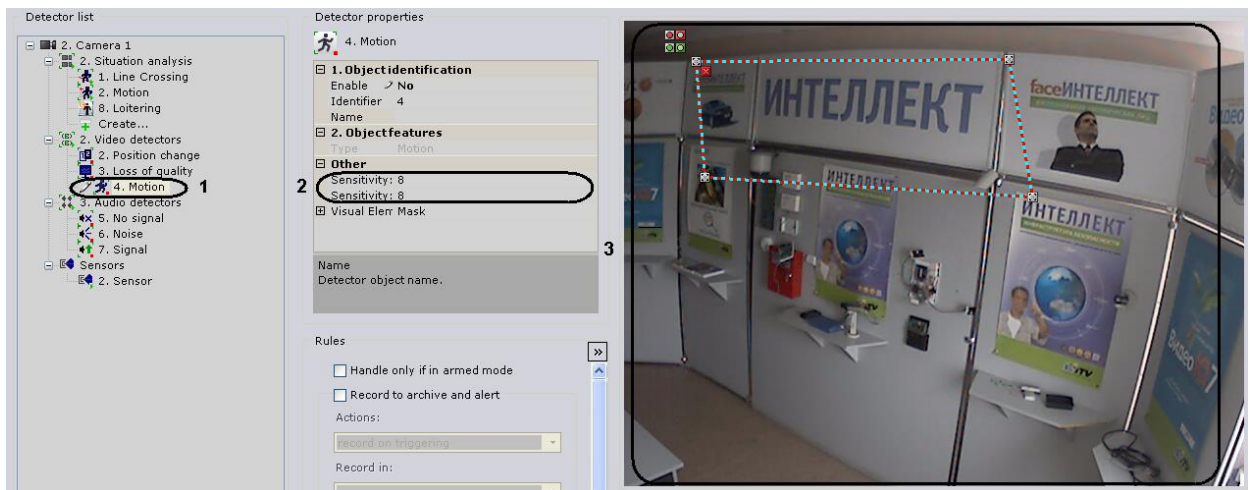

Fig. 6.4—14 Configuring a motion detector
1. In the detector list, highlight a **Motion** video detector object (Fig. 6.4—14, 1).
2. In the **Sensitivity: contrast** field (see Fig. 6.4—14, 2), enter the sensitivity of the detector to object contrast. You should select a value empirically in the range [0, 16]. The greater the value, the less contrastive the objects which can be detected.
3. In the **Sensitivity: size** field (see Fig. 6.4—14, 2), enter the sensitivity of the detector to object size. You should select a value empirically in the range [0, 10]. The greater the value, the smaller the objects which can be detected.
4. In the viewing tile, set detection zones and/or masks in the same way as for situation analysis detectors (see Fig. 6.4—14, 3).